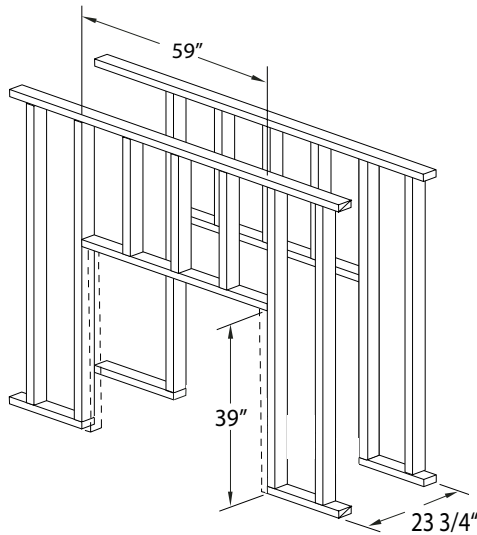

Figure 2. Framing dimensions. Both walls typical.
Frame in the enclosure for the unit with framing materials. The framed opening for the assembled fireplace is 59" wide x 39" high x 23 3/4" deep, see **Figure 2**.
- 2). Tack four studs in place, shown in **Figure 2 and 3** as dashed lines.